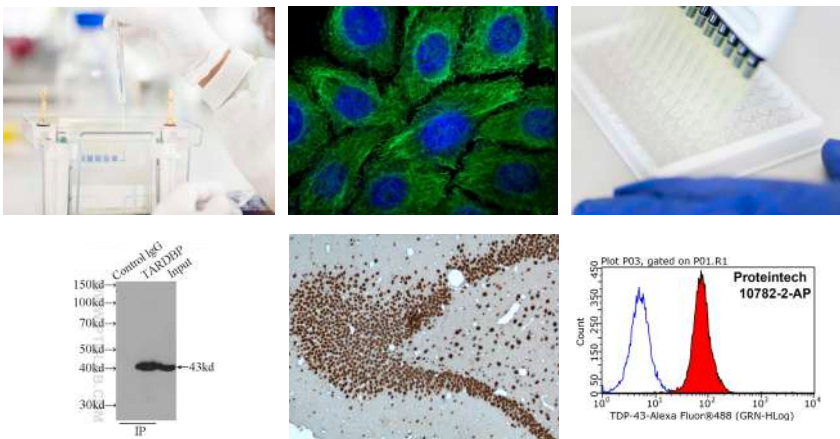

Figure 1. Cell culture laboratory applications: western blot, ICC/IF, ELISA, IP, IHC, and FACS analysis
- Is a major consistent and reproducible tool in molecular and cellular biology (*Figure 1*).